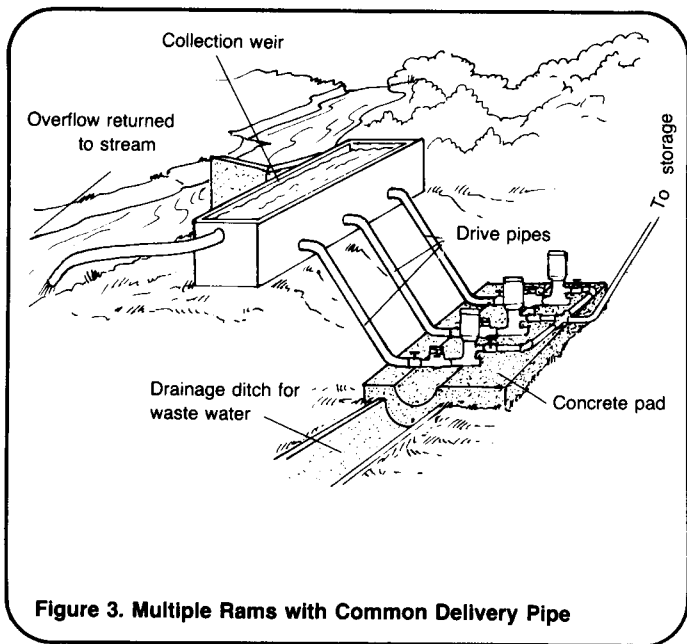

Figure 3. Multiple Rams with Common Delivery Pipe
**Ram.** Rams can be constructed using commercially available check valves or by fabricating check valves. They are also available as manufactured units in various sizes and pumping capacities. Rams can be used in tandem to pump water if one ram is not large enough to supply the need. Each ram must have its own drive pipe, but all can pump through a common delivery pipe as shown in Figure 3. In installing the ram, it is important that it be level, securely attached to an immovable base, preferably concrete, and that the wastewater be drained away. The pump cannot operate when submerged. Since the ram usually operates on a 24-hour basis the size can be determined for delivery over a 24-hour period. Table 4 shows hydraulic ram capacities for one manufacturer's Hydrams.